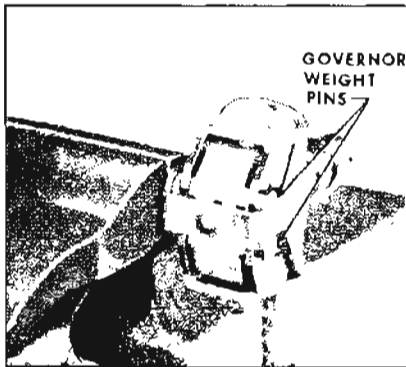

Figure 5-253
7. Install NEW governor weight pins. Crimp end of pins in a vise. See Figure 5-253.